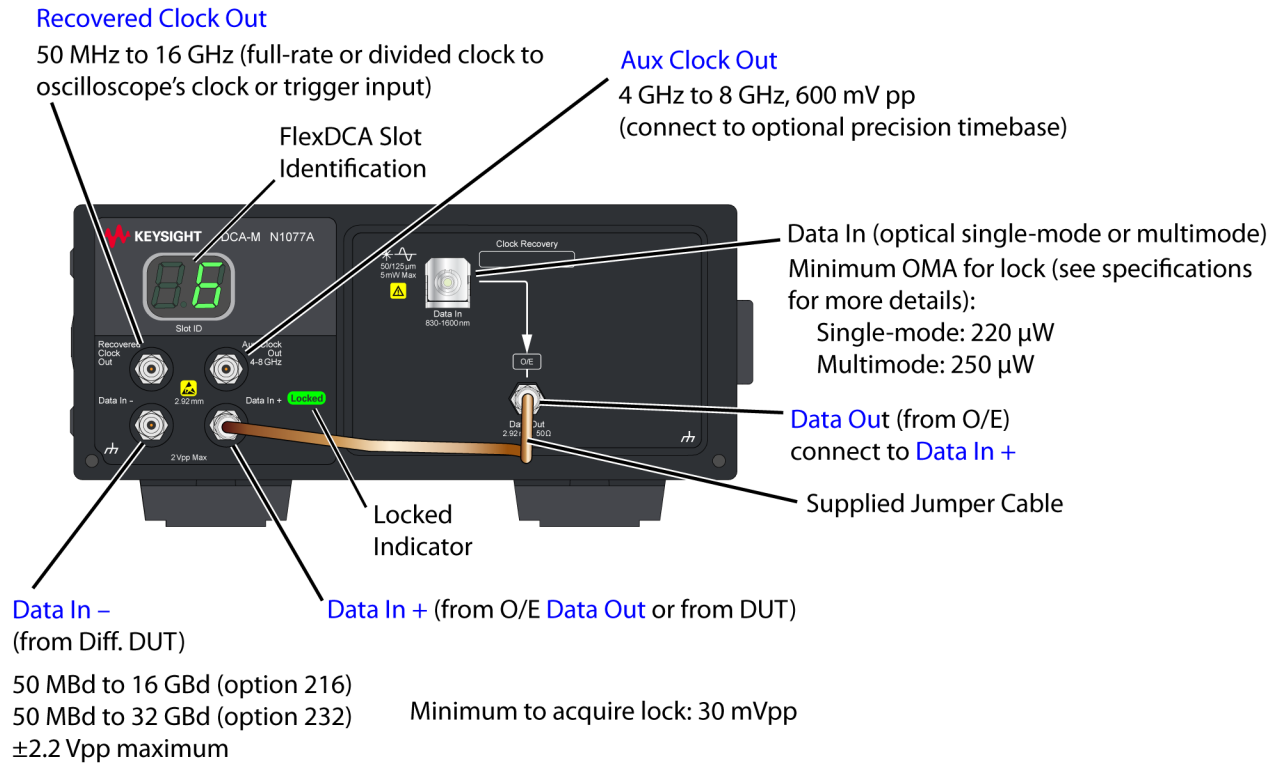
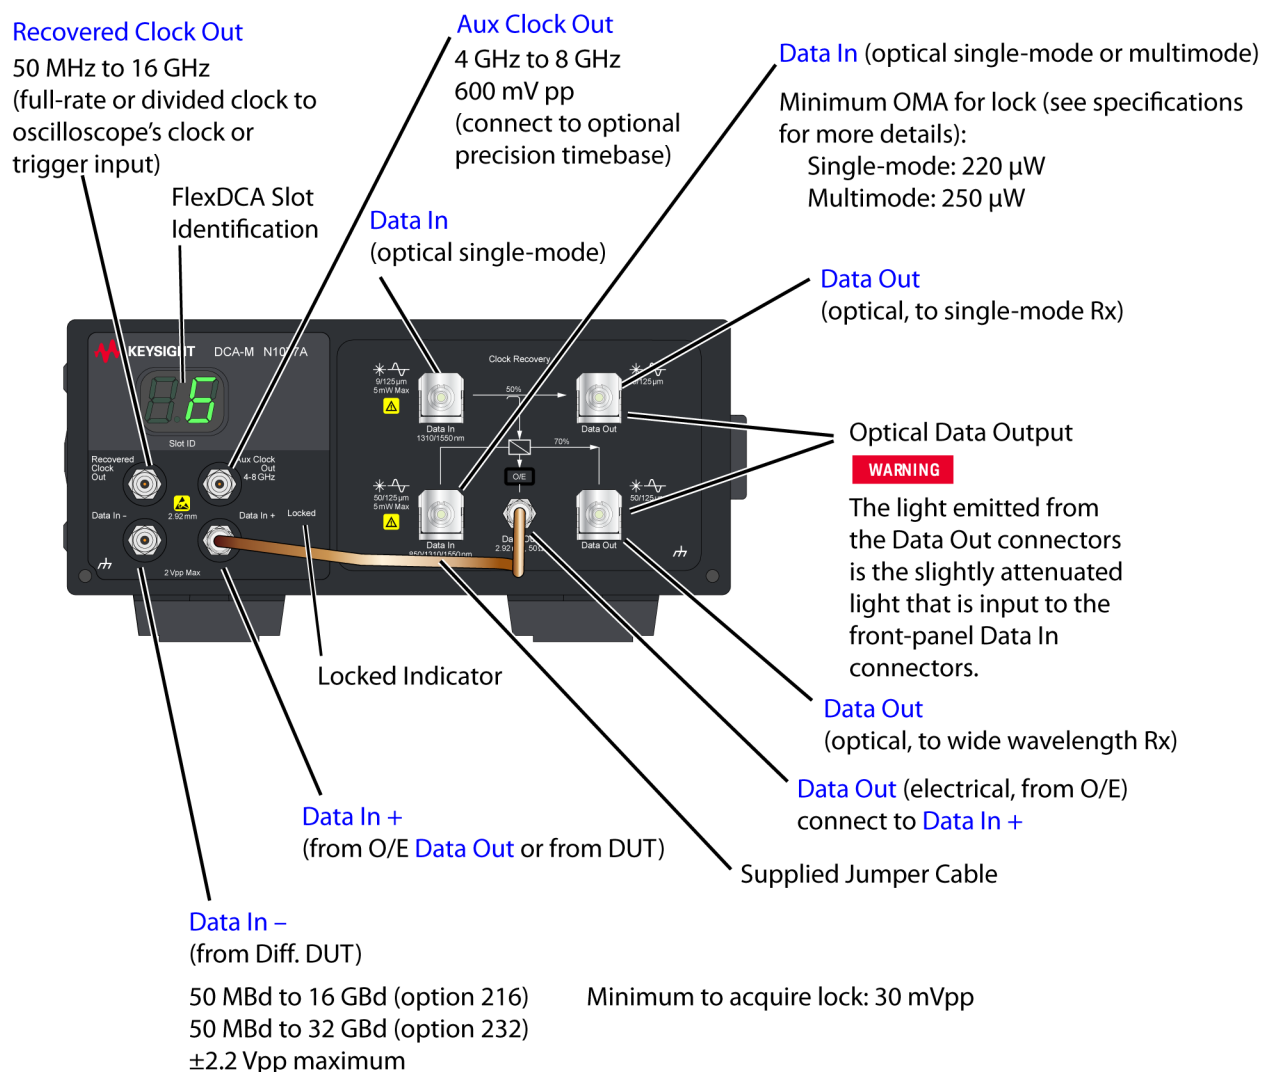

Figure 30. N1077A-SXT Front-Panel Connectors
Figure 31. N1077A-SMS Front-Panel Connectors
Figure 30 on page 72 and *Figure 31 on page 73* shows the N1077A-SXT and N1077A-SMS module front-panels. Option SXT modules do not have an internal optical splitter and have one multimode optical input. Option SMS models include an internal optical splitter and both single-mode and multimode optical inputs and outputs. The optical internal splitter provides a slightly attenuated input signal at the optical **Data Out** connectors. This output can be used for input to a receiver module or other test equipment.
1. Confirm that the input signal meets the baud rate and amplitude requirements shown in *Figure 31 on page 73*. In this procedure, the following assumptions are made for simplicity. You can change these parameters to any acceptable values.